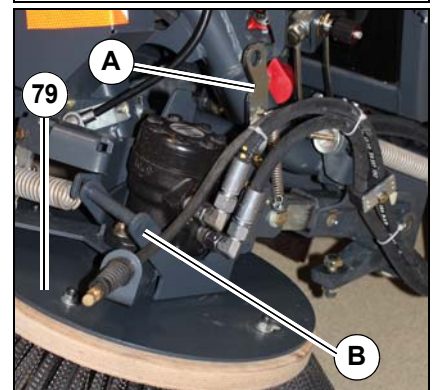

Fig. 106:
The transport protection device **Fig. 106-A** is located on both sides of the sweeping unit **Fig. 106-79** and has the task of protecting the rotating brushes during transport.
- Locking: Raise the brush arm using the handle **Fig. 106-B**. Lock the brush arm with the hook of the transport protection device.
- Unlocking: Raise the brush arm using the handle **Fig. 106-B**. Unlock the brush arm with the hook of the transport protection device and carefully let the brush arm down.
1. Lock the sweeping unit with the transport protection device **Fig. 106-A**, see page 125.